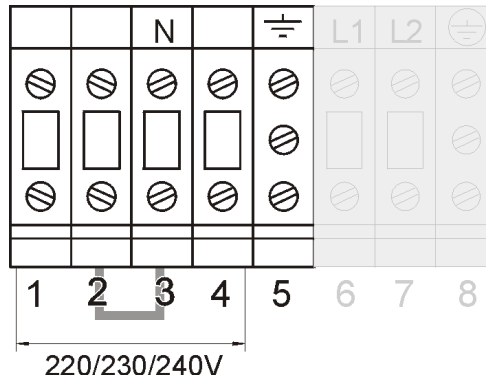

Figure 14. LP 5/6/8/10-11U: 220/230/240 Vac output connection
2. Connect the load wires between the terminals 1 (L1) and 4 (N). Connect the ground wire to terminal 5. Ground connection is essential! Do not remove the link between terminals 2 and 3. See figure 14.